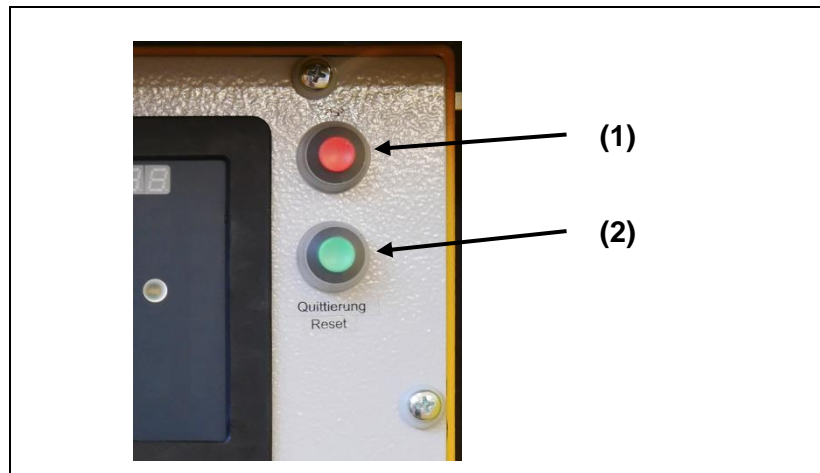

Fig. 5-2: Insulation monitoring using E-MCS 4.0
2. Press the test button see Fig. 5-2-(1)
3. After testing, press the Reset button (see Fig. 5-2-(2)), to acknowledge the error message.
1. Press the Reset button (see Fig. 5-2-(2)), to acknowledge the error message.
3. Press the test button *see Fig. 5-2-(1)*